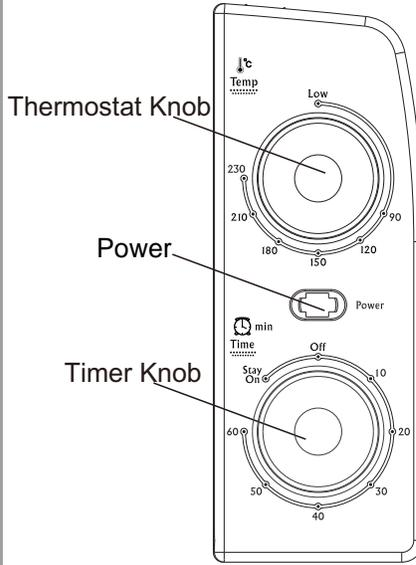

fig.3.
**Stay on time-**If you have not finished cooking you can set the Time Knob to “Stay On” and the oven will stay on. It will not Turn Off automatically. To turn off you need to manually turn the Timer Knob to the off position until you hear the bell ring. See fig.3.
—Turn the Temperature Knob to the desired temperature setting. The temperature can be set from 70°C to 220°C. See fig.3.